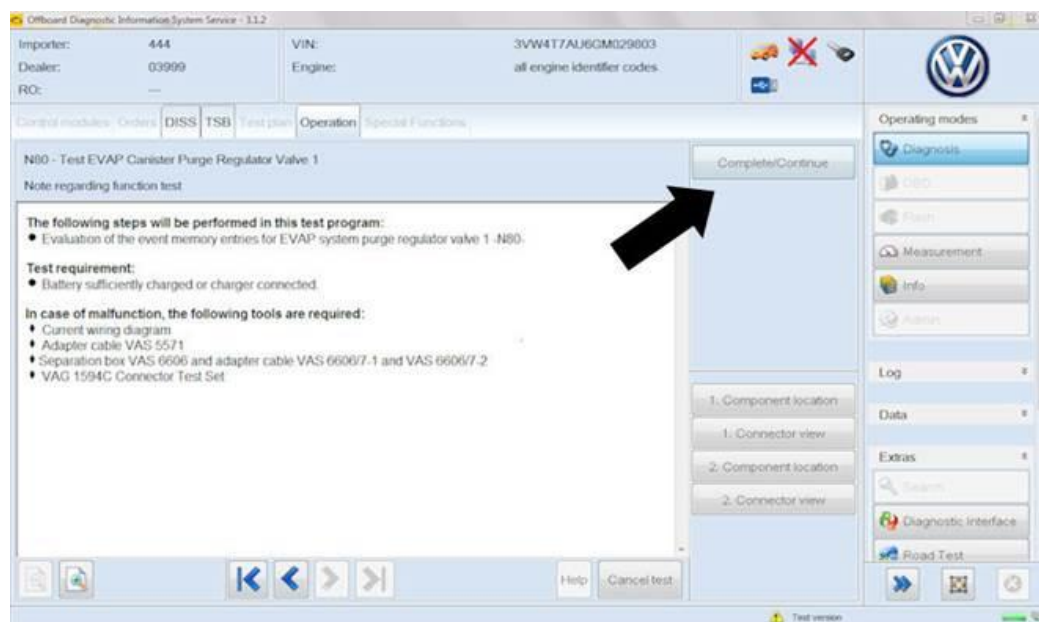

Figure 4
- Answer on screen prompts to start the -N80- test (Figures 4 and 5).